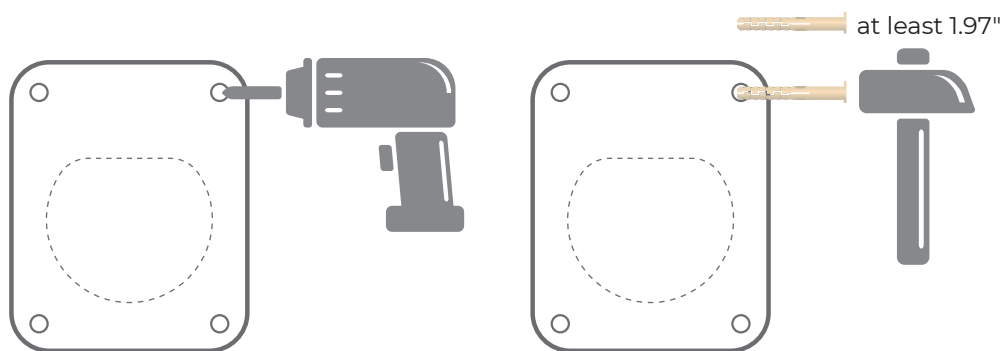

Fig. 5.6.2
3. Drill the mounting holes on the wall with a depth of at least 1.97". (See Fig. 5.6.2)